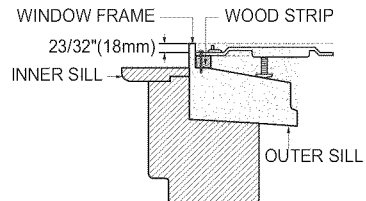

FIG. 12
* Dimensions and geometry of windows are different according to manufacturer's. Check your window and refer to FIG.12 to install the support bracket firmly.